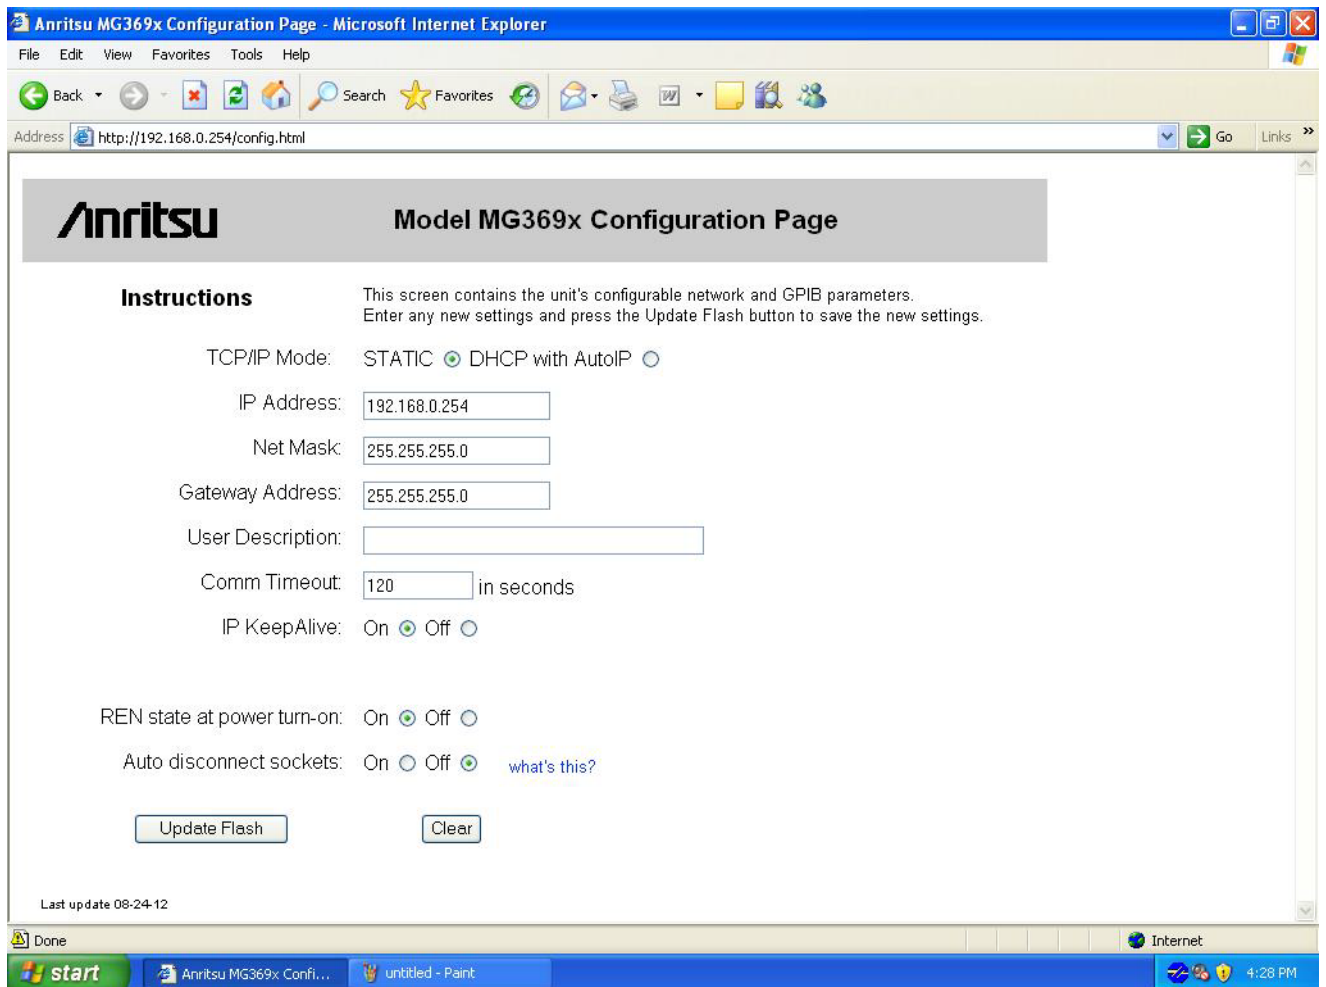

Figure 1-6. MG369xC Ethernet Device Configuration Page - Static TCP/IP Mode
4. Click the Go to Configuration Page button. The MG369x TCP/IP configuration page appears as shown in Figure 1-6 on page 1-15.